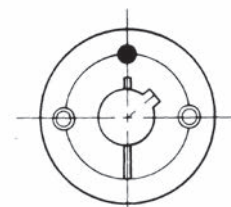

FIGURE 3
- iii) Open access flap by loosening the two bolts item 12 and rotate flap anticlockwise.
- v) Clean hexagonal socket in items 5 thoroughly.
**NOTE:** Ensure to hold key square to the face of blade, Ref. Fig. 3 (2.5° off front plate item 10)
- (ii) Observe Figure 3.